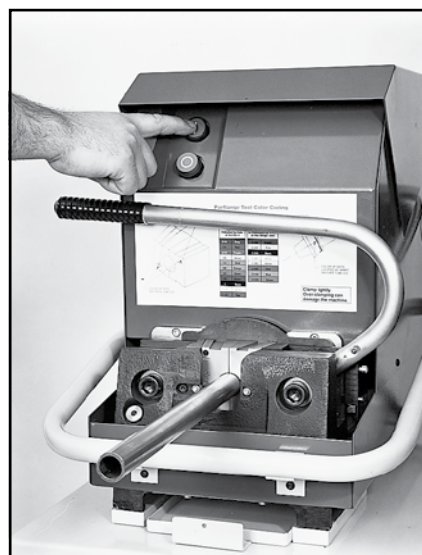

Fig. S17 – Parflange 1025 machine
Parker offers a bench mount model known as the Parflange 1025, shown in Fig. S17, as well as a more versatile, fully automated high speed models. For additional information on the Parflange machines and tooling, refer to section R of this catalog. For additional information on the fully automated models, please contact Parker Tube Fittings Division.
5. Flange the tube as shown in Figure S17.